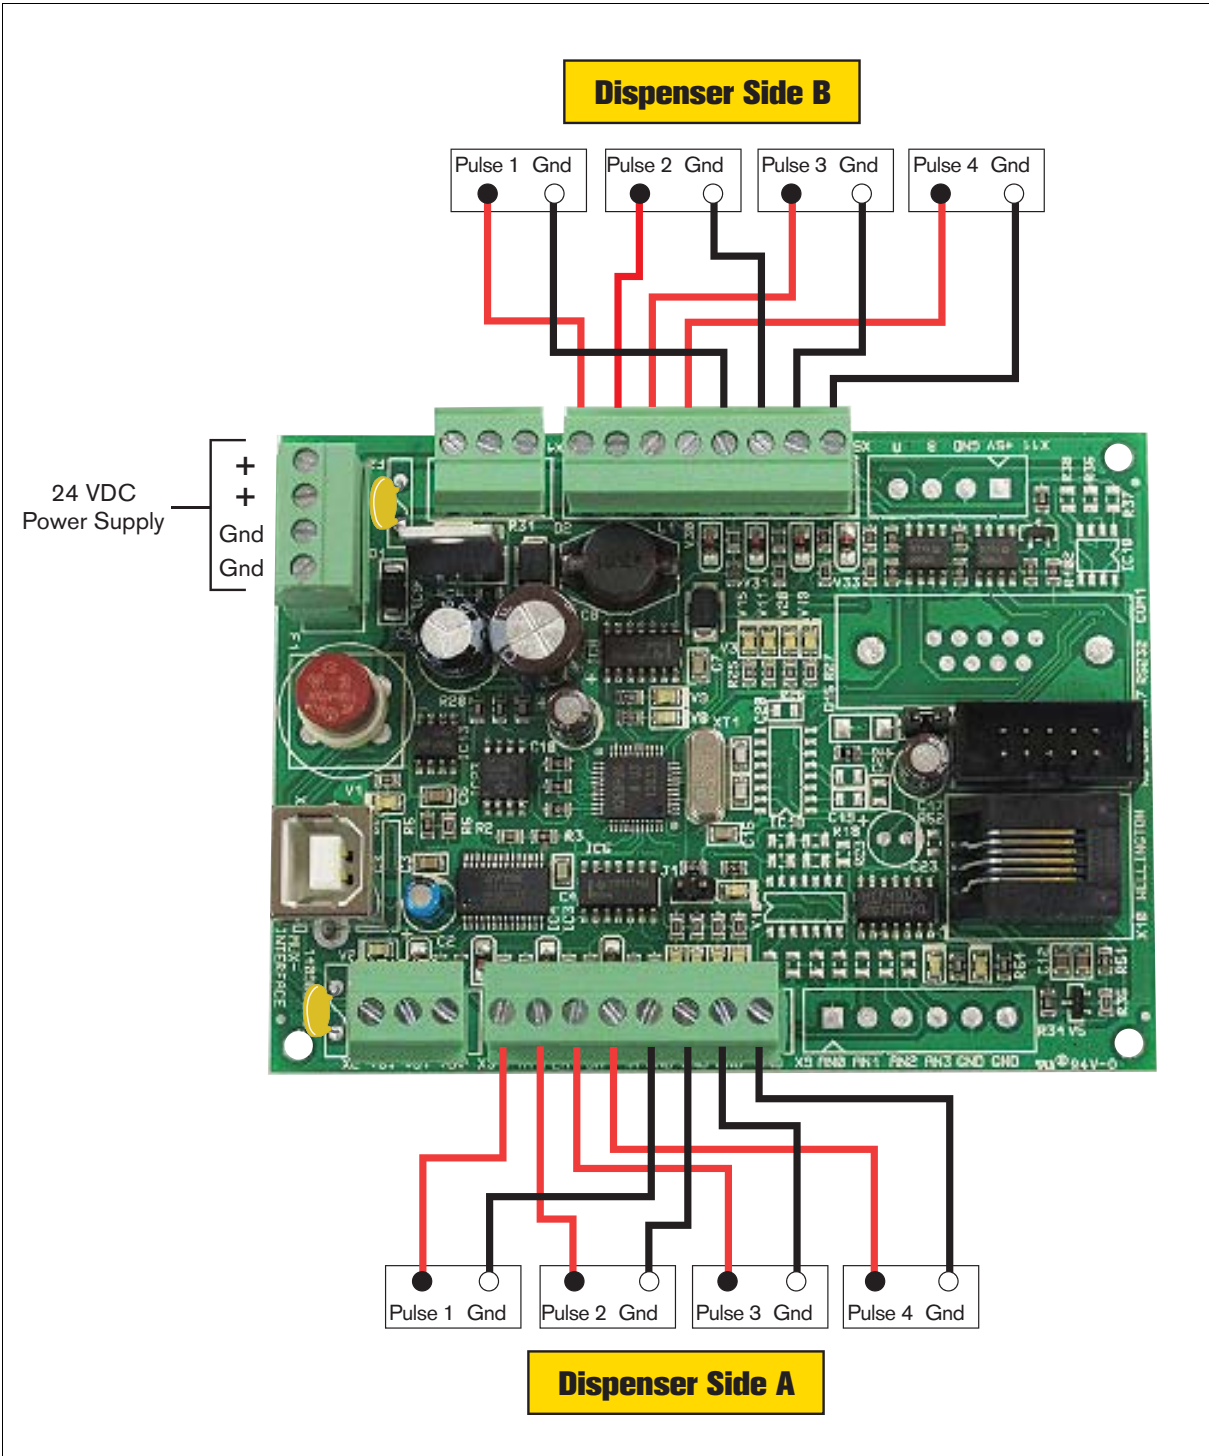

Figure 14. VaporTEK Interface - Liquid Pulse Signal Connections
- c. Connect the pulse signal inputs to the VaporTEK Interface using the 24AWG, 8 conductor signal cables included in the Kit. (Note: 2 conductors used per pulse signal input, see wiring diagram in Figure 14.)